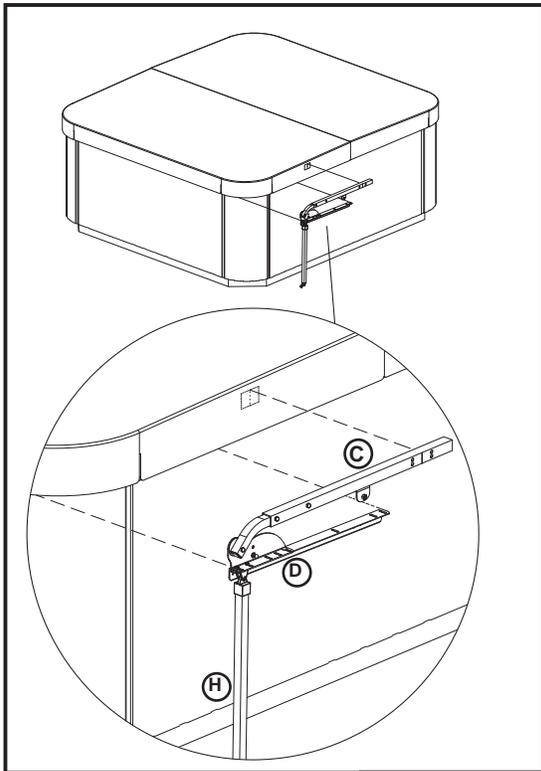

Figure 2.1
1. Align (Left Side Assembly) against the lip of the Spa Shell, making sure to align the Scribe on (Side Assembly Channel (C)) with line traced on top the aluminum plate (Figure 2.1)